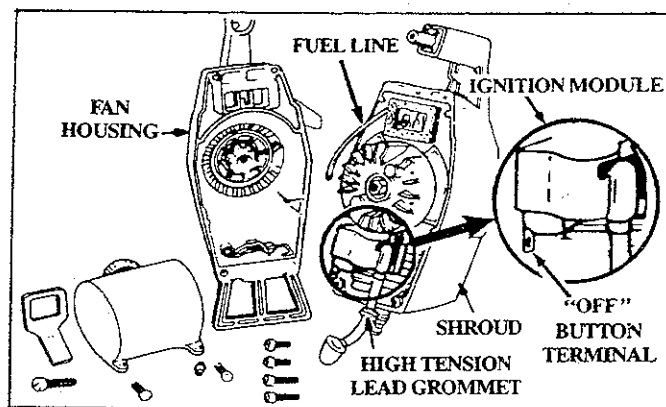

Figure 26
6. Slide high tension lead grommet from slot in fan housing. Figure 26.
7. Separate fuel line leaving the connector in the end attached to the fuel tank. Figure 26.
8. Separate the fan housing completely from the shroud. Figure 26.
CAUTION: Before replacing the fan housing, make certain that the “off” button terminal on the ignition module is not bent. See insert, Figure 26.
24. Position the “off” button terminal as shown. Figure 26.
26. If the engine will not stop, move choke to the “On” position, (Figure 8) to stop engine. Disassemble fan housing and be sure the “off” button terminal (Figure 26) is in the correct position. Reassemble parts.